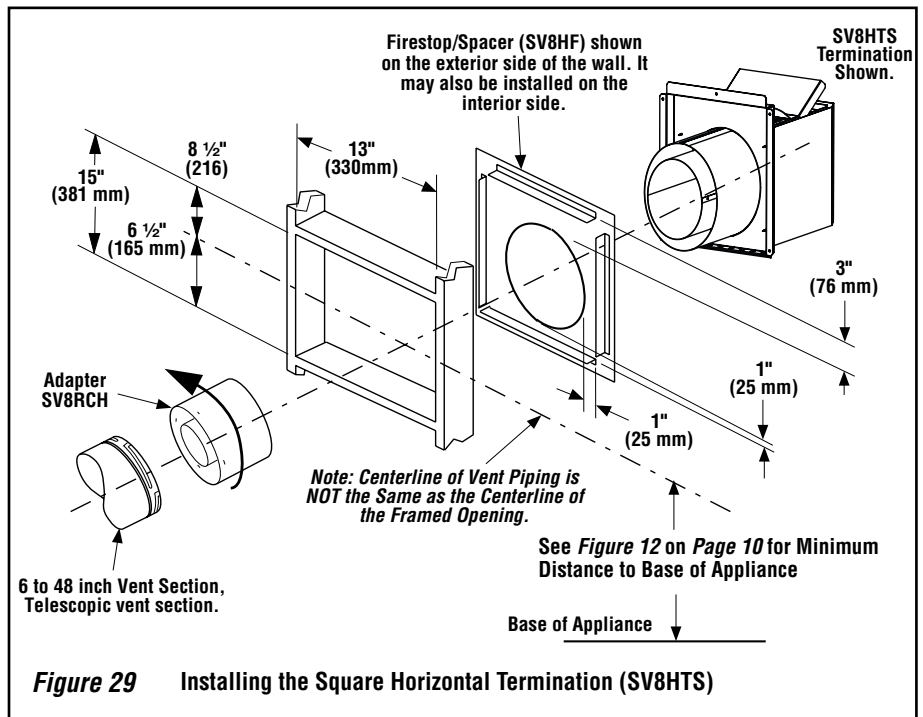

Figure 29 Installing the Square Horizontal Termination (SV8HTS)
K. Attach termination adaptor - Attach the adaptor (adaptor - SV8RCH - provided with the termination) to the vent section or telescoping vent section), or elbow as shown in **Figure 29** in the same manner as any SV vent component (refer to **Step E**).
L. Install Firestop/Spacer at exterior wall - When using the square termination, install SV8HF Firestop/Spacer over the opening at the exterior side of the framing, long side up, with the 3 inch spacer clearance at the top as shown in **Figure 29**, and nail into place.